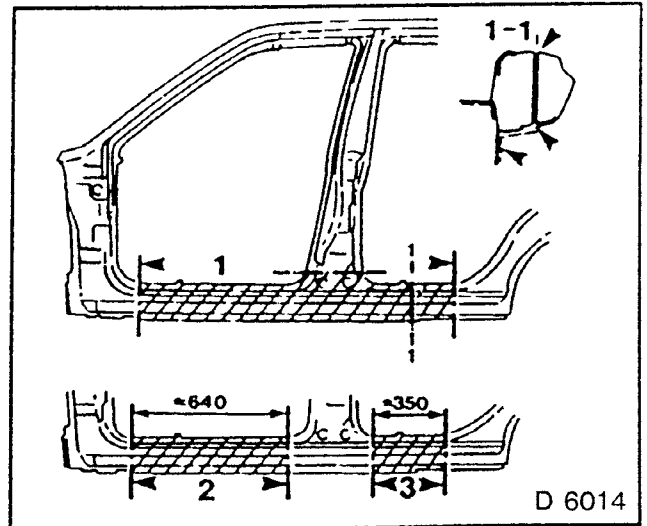

Fig. 65
4. Fig. 65 shows separation line.